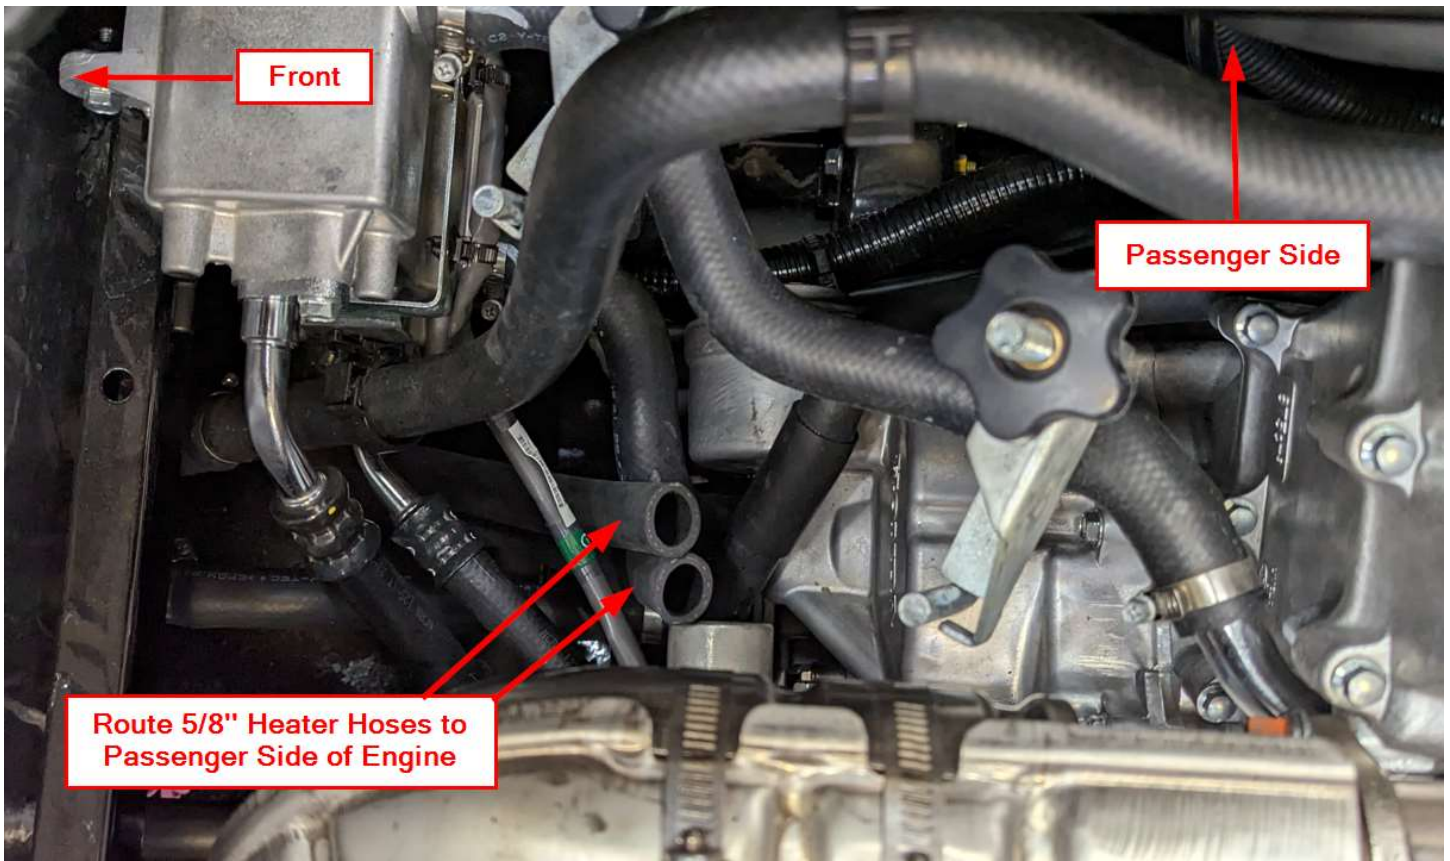

Figure 14
- b. Once in the engine bay route the 5/8" Heater Hoses toward the Passenger side of the engine as shown in Figure 14.